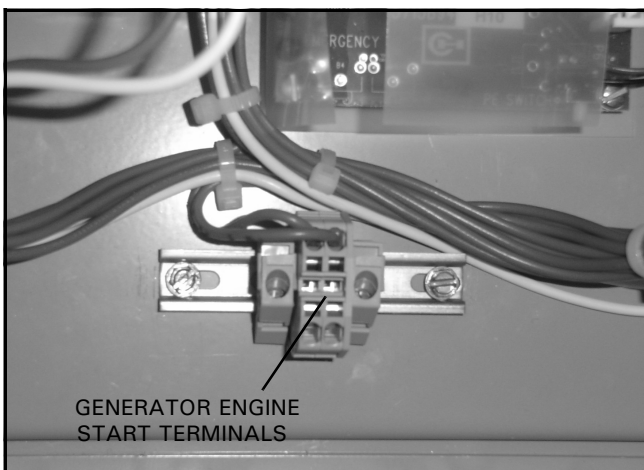

Figure 17. Generator Engine Start Terminals Location.
Step 2: RLCM: The generator engine start terminals are tan. They are located at the bottom center of the power panel and are used when the generator has an automatic start feature (see Figure 17). See Section 4.10 for more detailed information on connecting the generator engine start cables.